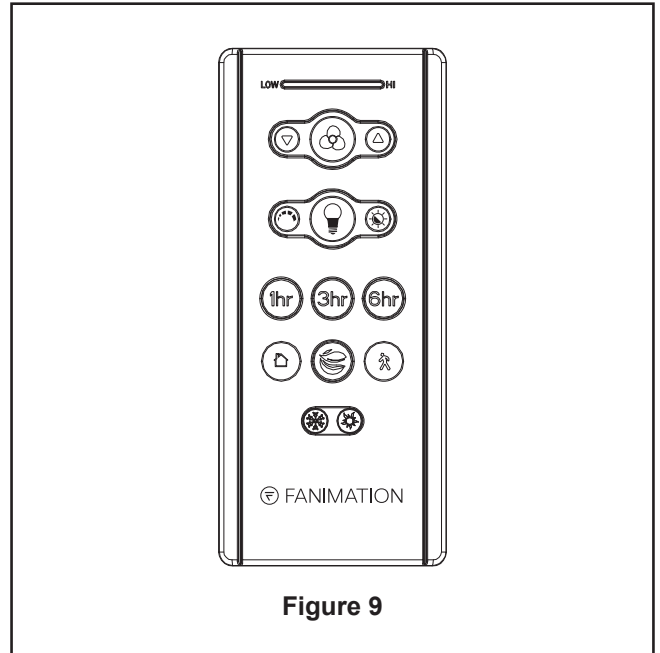

Figure 9
11. Remote functions: (Figure 9)